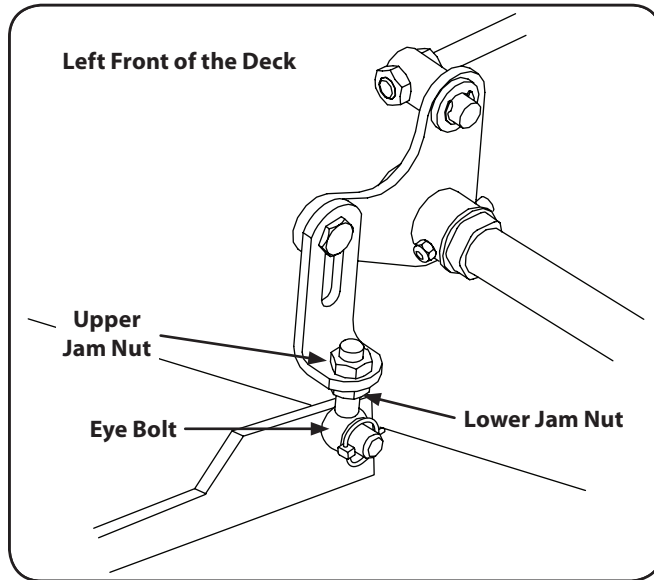

Figure 6-6
5. The right front blade tip height is fixed so you must adjust the left front tip to match it. See Fig. 6-6.